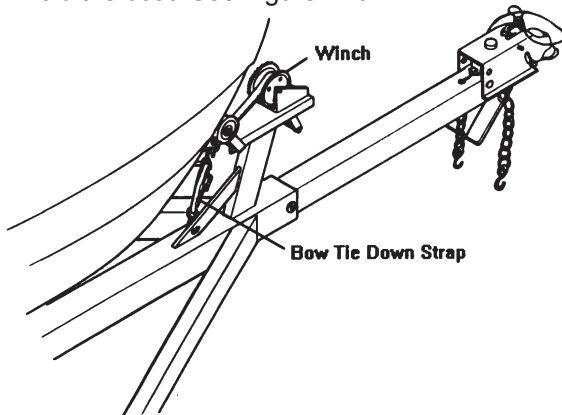

Figure F10: Bow Tie Down Strap
1. **Bow Tie-downs:** A bow stop to hold the front of your boat in place is located on the winch stand. It should be positioned so that the winch line pulls straight and is parallel to the trailer frame. A separate tie-down should then be attached to hold the boat. See Figure F10.